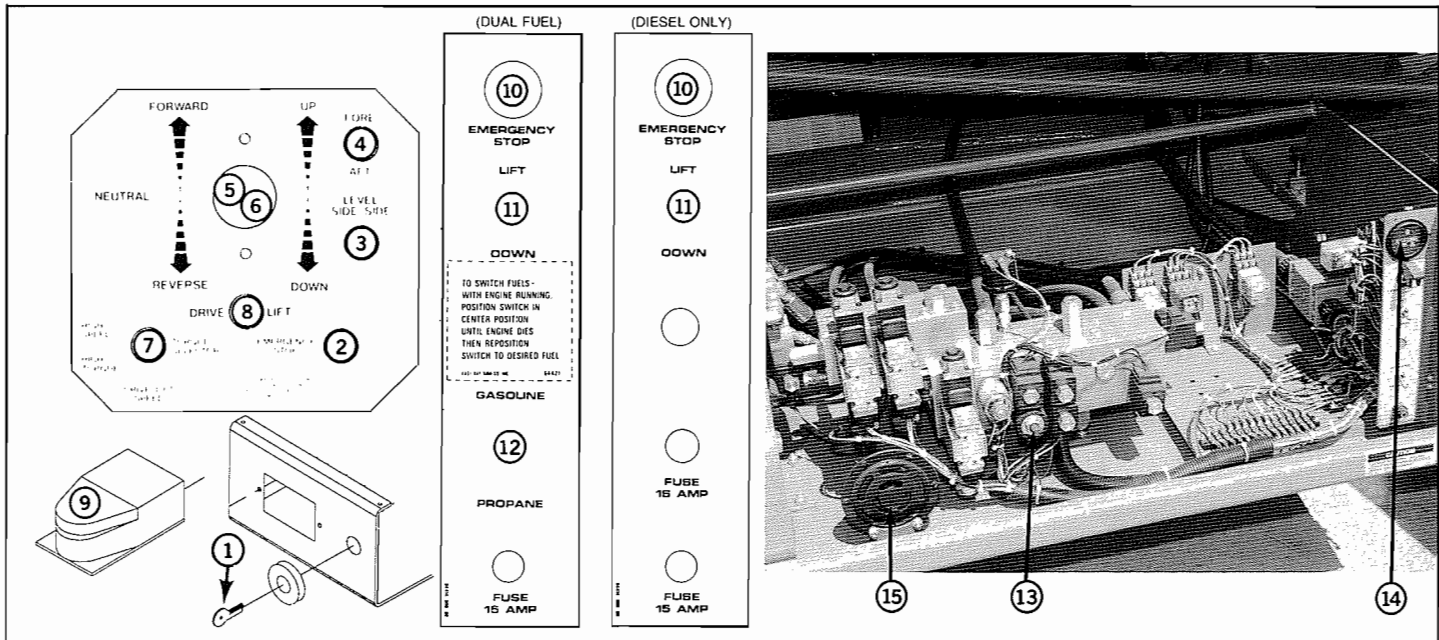

Figure 3-1
The controls and indicators for operation of the SL-26 Speed Level Work Platform are shown in Figure 3-1, Controls and Indicators. The name and function of each control and indicator are listed in Table 3-1, Controls and Indicators. The index numbers in Figure 3-1 correspond to the index numbers in Table 3-1. The operator should know the location of each control and indicator and have a thorough knowledge of the function and operation of each before attempting to operate the unit.
1. Open the Emergency Lowering Valve by turning the knob counterclockwise approximately 1/4 turn and pull out to disengage detent. (Ref. Figure 3-1, Controls and Indicators)